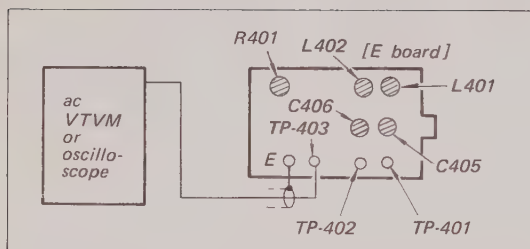

Fig. 9-4. Bias oscillator level and audio bias adjustment
1. Connect the scope probe to TP-403 on the E board. See Fig. 9-4.
3. Adjust the L401 (L402) (See Fig. 9-4) on the E board for a minimum output.
6. Connect an ac VTVM to TP-401 on the E board. See Fig. 9-4.
2. Connect an ac VTVM or oscilloscope to TP-402. See Fig. 9-4.